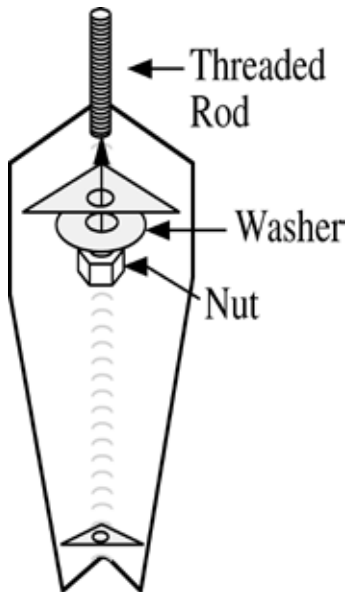

Figure 1
2. Mount all four legs as shown in Figure 1 below.